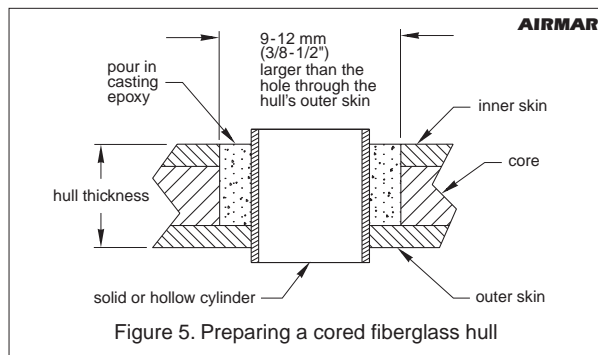

Figure 5. Preparing a cored fiberglass hull
- Using a 51 mm or 2" hole saw, cut the hole from outside the hull through the *outerskin* only (see Figure 5).
Alternatively, a hollow or solid cylinder of the correct diameter can be coated with wax and taped in place. Fill the gap between the cylinder and hull with casting epoxy. After the epoxy has set, remove the cylinder (see Figure 5).